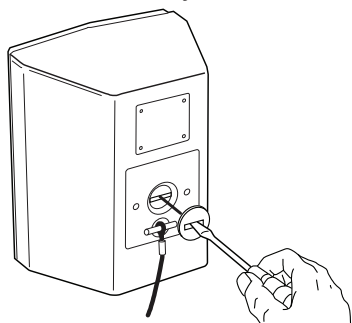

Fig. 2
2. Using a wide-tipped, slotted screwdriver, remove the plastic InvisiBall knock-out plug by pushing downward as shown in Fig. 2. Remove any residual plastic around the hole to ensure the ball assembly will fit into the hole.